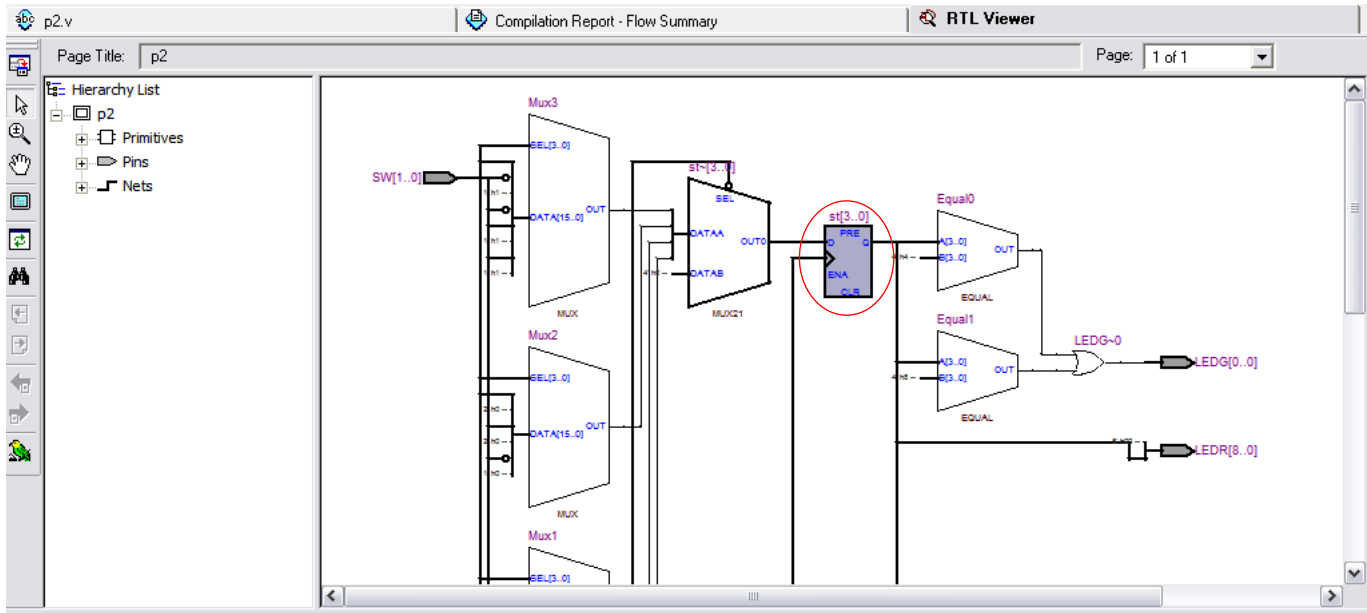

Figure 1: Sample RTL viewer window.
3. In Part I, view the circuit you have created in the RTL viewer. The RTL viewer can be launched from the Quartus menu (Tools->Netlist viewers->RTL viewer). Count the number of flip-flops using the RTL viewer (you may want to make a copy of the RTL Viewer image to paste into your notebook). A sample RTL viewer window is shown in Figure 1, with a group of flip-flops highlighted. Note that flip-flops will often be referred to as *registers* in Quartus II. Also, the RTL-viewer may “bundle” flip-flops together. For example, in Figure 1, four flip-flops have been bundled together ([3..0]). Additionally, you should observe the number of flip-flops using the compilation report. An example compilation report is shown in Figure 2 where Quartus II refers to flip-flops as registers.